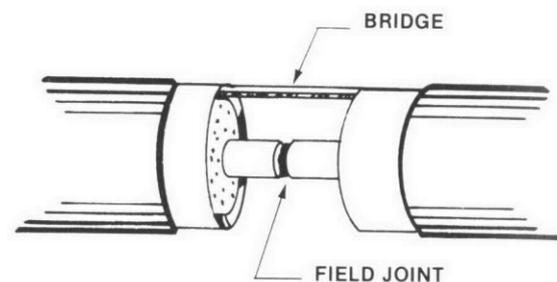

Figure 3. Bridge Method
- ✓ Position a shipping bar or similar piece of metal, the *BRIDGE*, between the two casings and weld it to the inside edges of the conduit as shown in Figure 3.